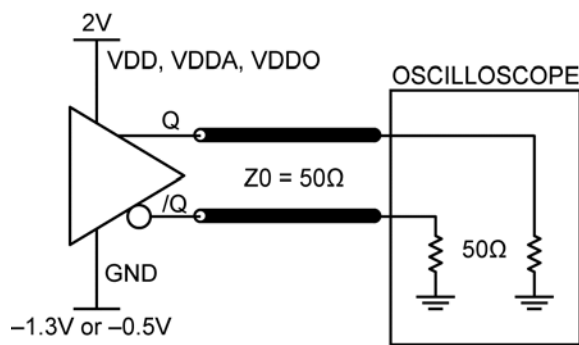

Figure 4. LVPECL Output Load and Test Circuit
9. See Figures 4 to 7 for load test circuit examples.